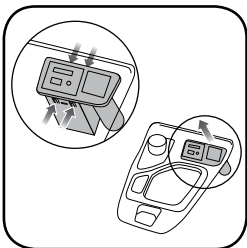

Fig. 2.3
- Depress the tabs and remove the media port from the center console cover. (Fig. 2.3)